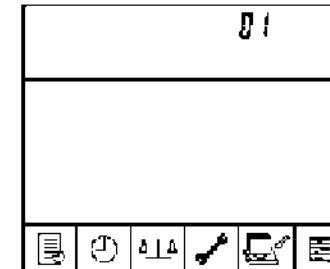

Fig 18
Select "F—01" then press "①" button, you could set detect Operator No, the range is 1-99, as figure 18. Press the "①" the setup, it will back to the detecting state automatically. Please record the person after setup to avoid confusion.